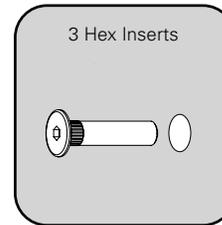

Figure 6
2.7 One-by-One place (tap) the inserts into the door until fully installed. You can use a 1/8" (3mm) hex key wrench to help keep insert stationary when placing the screws in step 3.3. (Fig. 6)